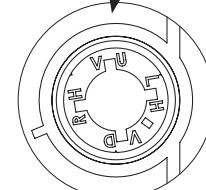

Figure 7
3. Then align the mark on the drive cam with the one on the back cover (Figure 7). (Mechanical tolerance +/- the width of the case alignment mark.)